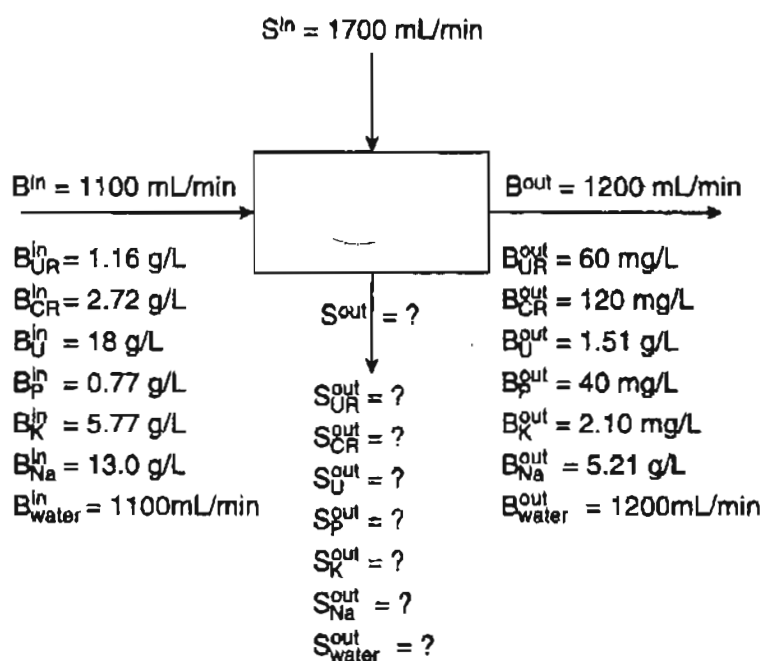

Figure E8.7b
This example focuses on the plasma components of the streams: water, uric acid (UR), creatinine (CR), urea (U), P, K, and Na. You can ignore the initial filling of the dialyzer because the treatment lasts for an interval of two or three hours. Given the measurements obtained from one treatment shown in Figure E8.7b, calculate the grams per liter of each component of the plasma in the outlet solution.
The data are inserted on Figure E8.7b.